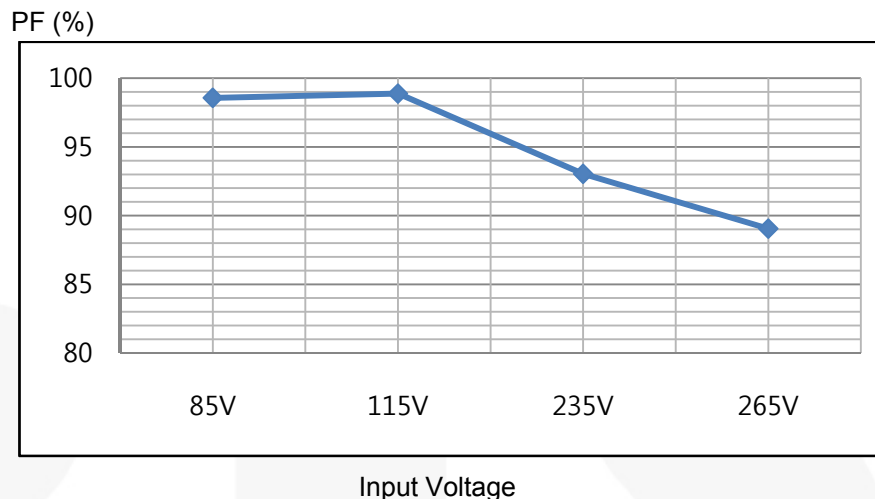

Figure 13. Power Factor Curve
8.2. Power Factor (PF)
Figure 13 shows at least 89% power factor (PF) is achievable with universal input condition at the rated output LED load.